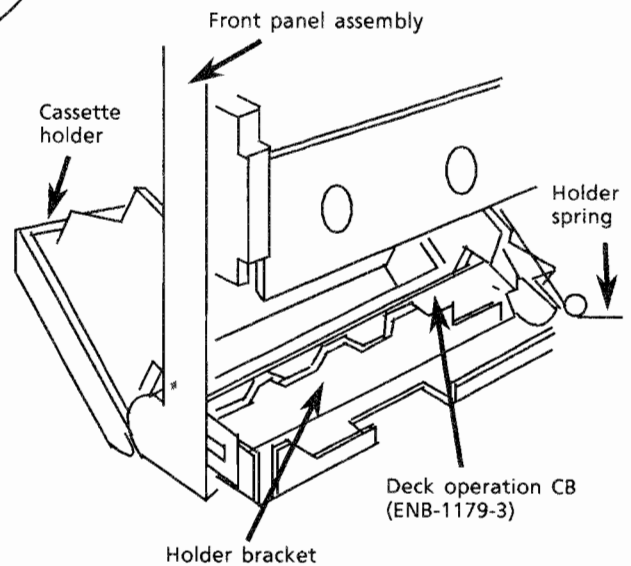

Figure6
2. Remove the holder springs (Figure 6).
■ Removing the deck operation circuit board (ENB-179-3: Figure 6)